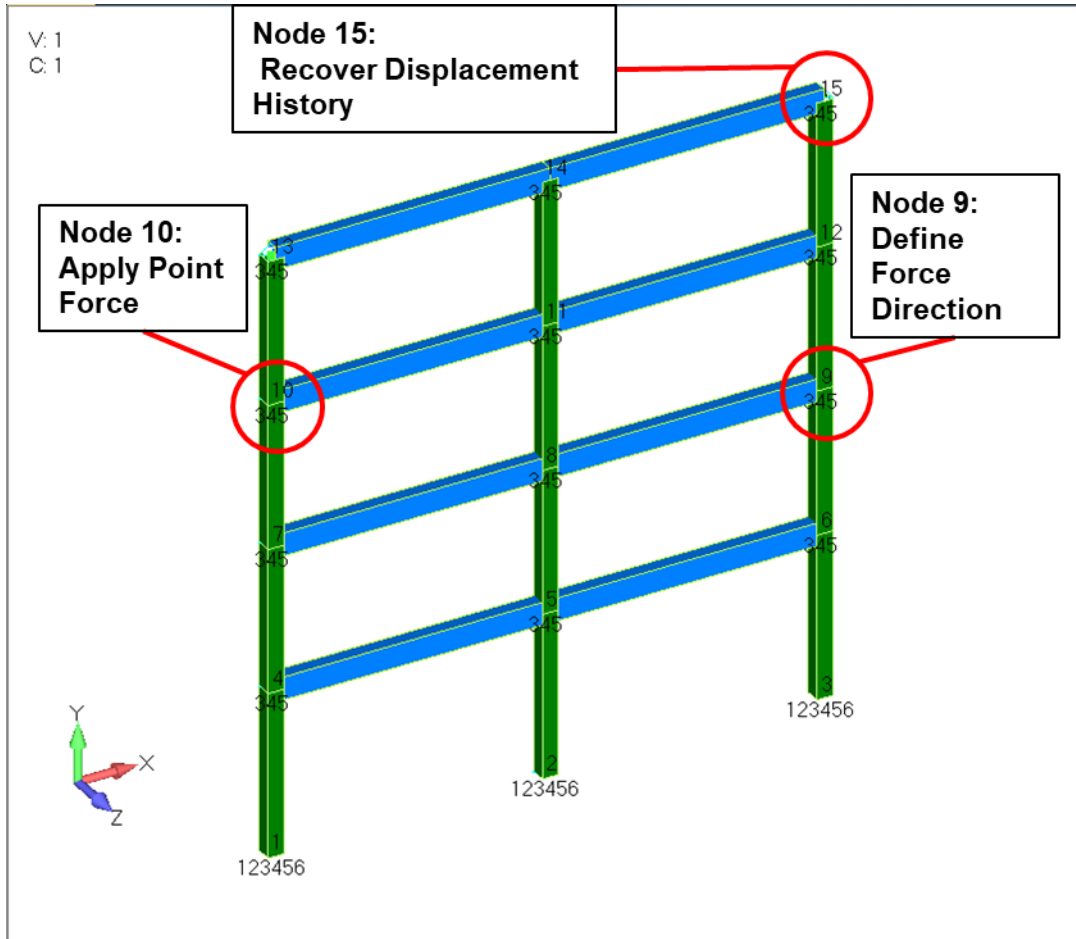

Figure 4-111. Frame model showing nodes of special interest.
1. If you have not already done so for a previous example, import the frame model "frame01\_modes.dat" into Femap. Save the model file as "frame.modfem." Figure 4-111 shows the model with notes about nodes that will be of special interest for this analysis, either for defining input or for recovering physical responses.